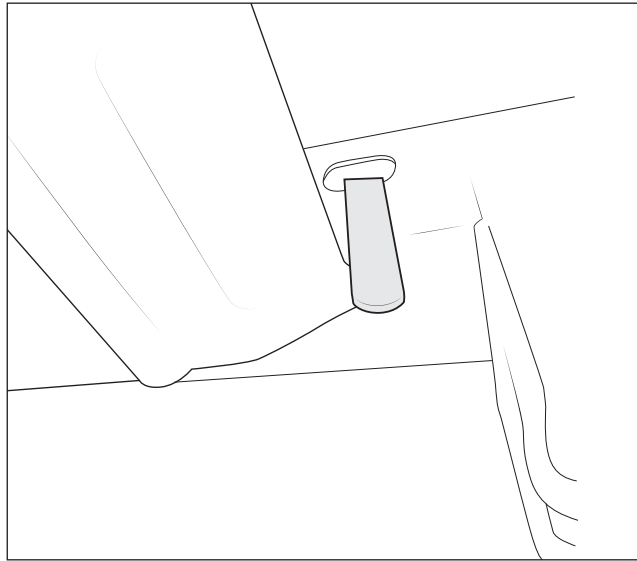

Figure 4
2. Pass the handle nut through the frame rail on the passenger side of the fuel tank towards the rear of the vehicle (fig. 4).